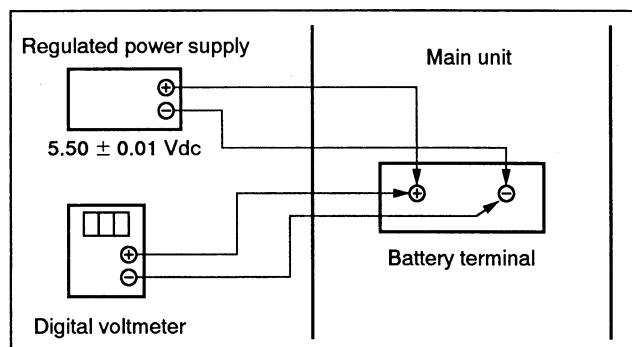

Fig. 7-3-5.
- 1) Connect the regulated power supply and the digital voltmeter as shown in Fig. 7-3-5.